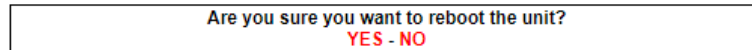

Figure 65. Configurator GUI (unit reboot dialog)
- The unit reboot dialog will be shown (Figure 65 (page 155)).